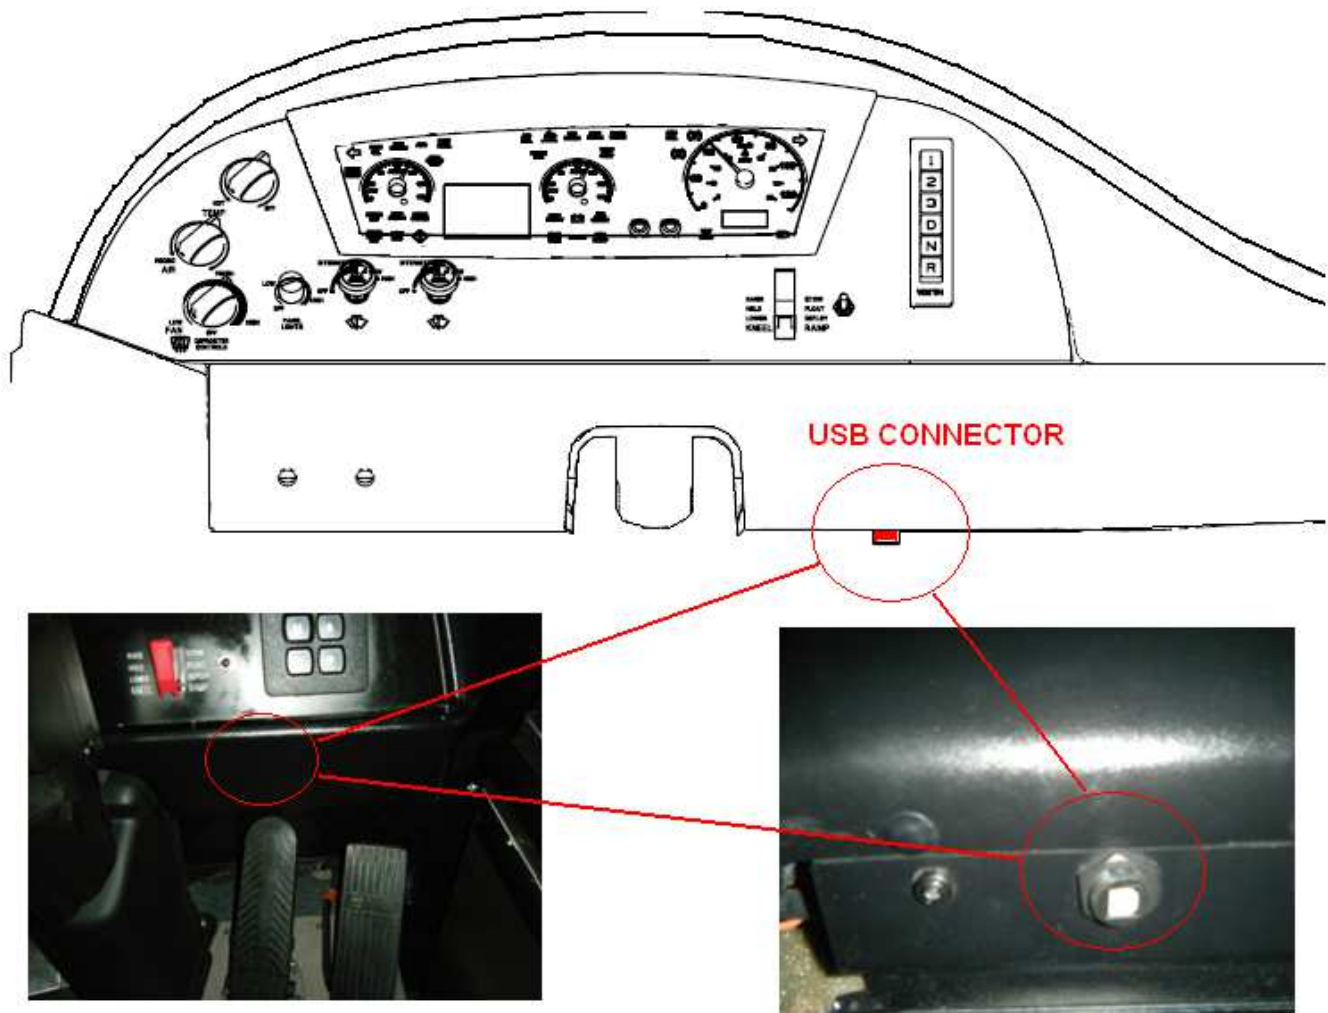

Figure 1: USB Connector Under Dash
2. Referring to figure 1, locate the USB 2.0 port on the lower dash close out panel below the Instrument Panel.